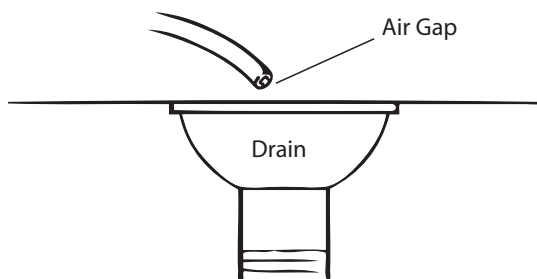

Figure 11 Drain Line Connection
**WARNING:** Never insert drain line directly into a drain, sewer line or trap (Figure 11). Always allow an air gap between the drain line and the wastewater to prevent the possibility of sewage being back-siphoned into the conditioner.